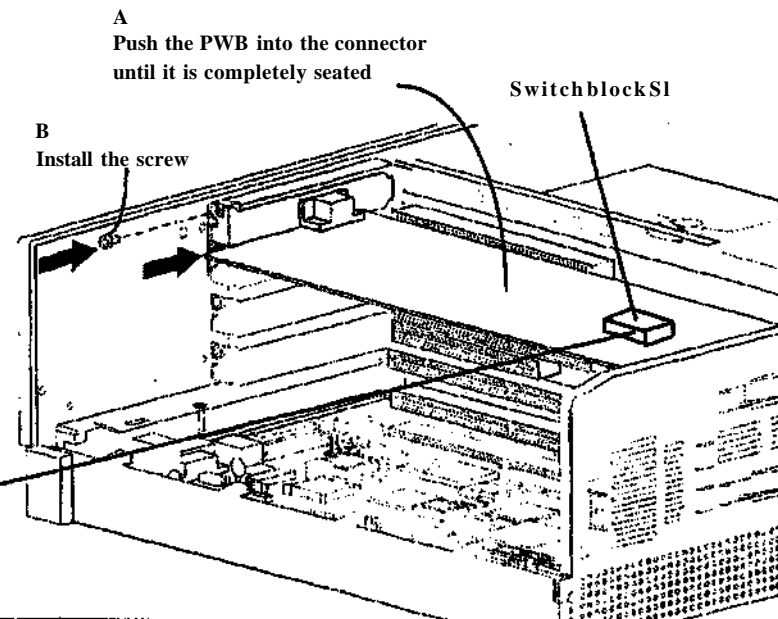

Figure 2. Installing the SCSI Adaptor PWB
3. (Figure 2): Install the SCSI Adaptor PWB.